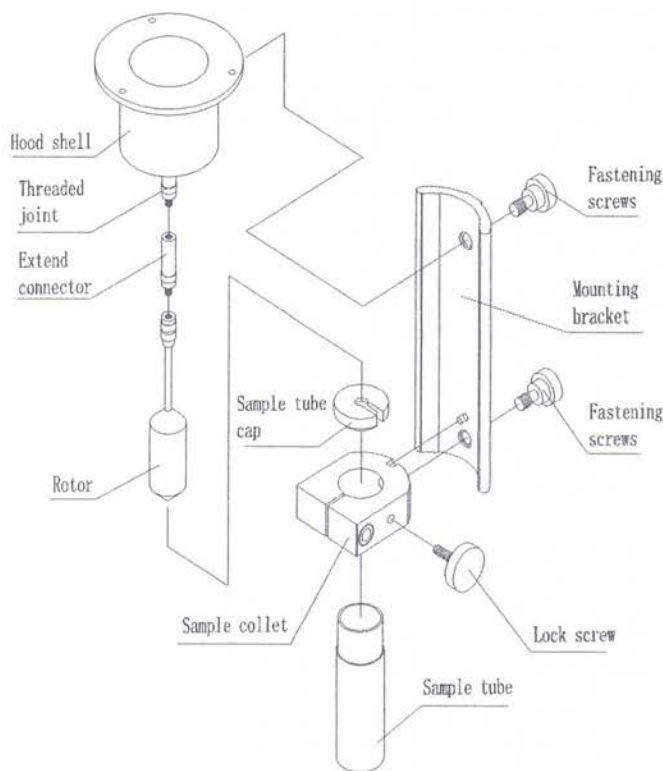
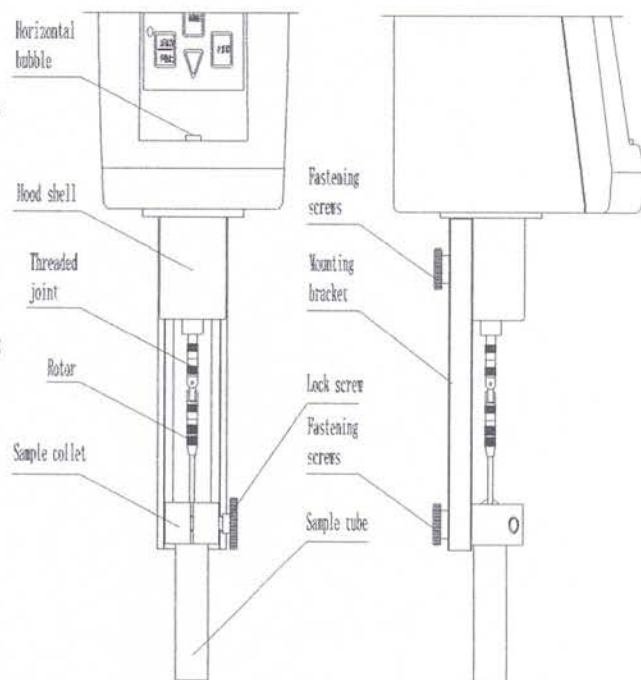

Fig. 9
Fig.10
5) According to the selected rotor, pour the required sample amount (see the table below) for testing. After completion, put the sample tube cap on it, as shown in Fig.9 and Fig.10.